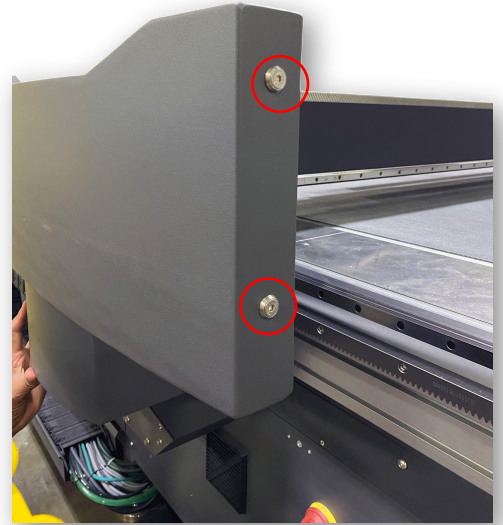

Figure 4
- 1)** Using the 4mm Allen wrench, remove the two (2) bolts on either side of both of the bump guards and set aside. (Figure 4)